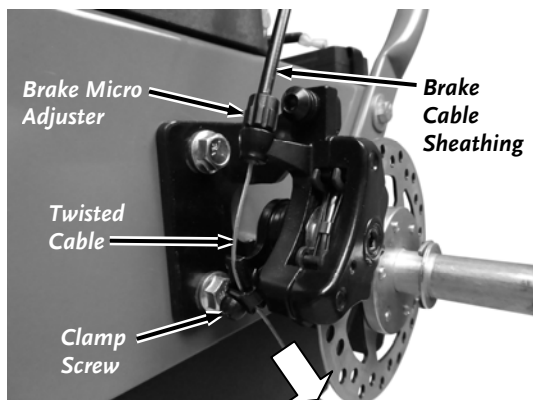
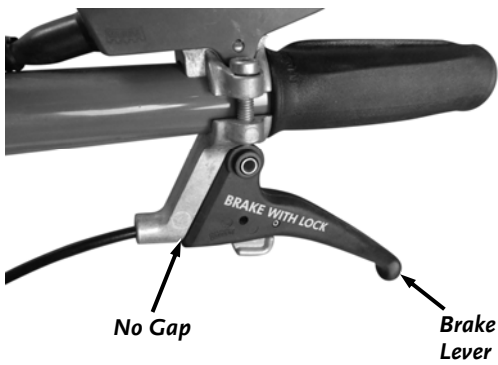

Figure 14
Figure 15
16. Insert the Braided Cable end of the Brake Cable through the Micro Adjuster and into the Clamp (**Figure 14**).
18. Check the Brake Lever to ensure there is no Gap Between the Lever and Bracket (**Figure 15**). If there is a noticeable gap, loosen the Clamp, pull the Cable through the Clamp some more and retighten (**Figure 14**).